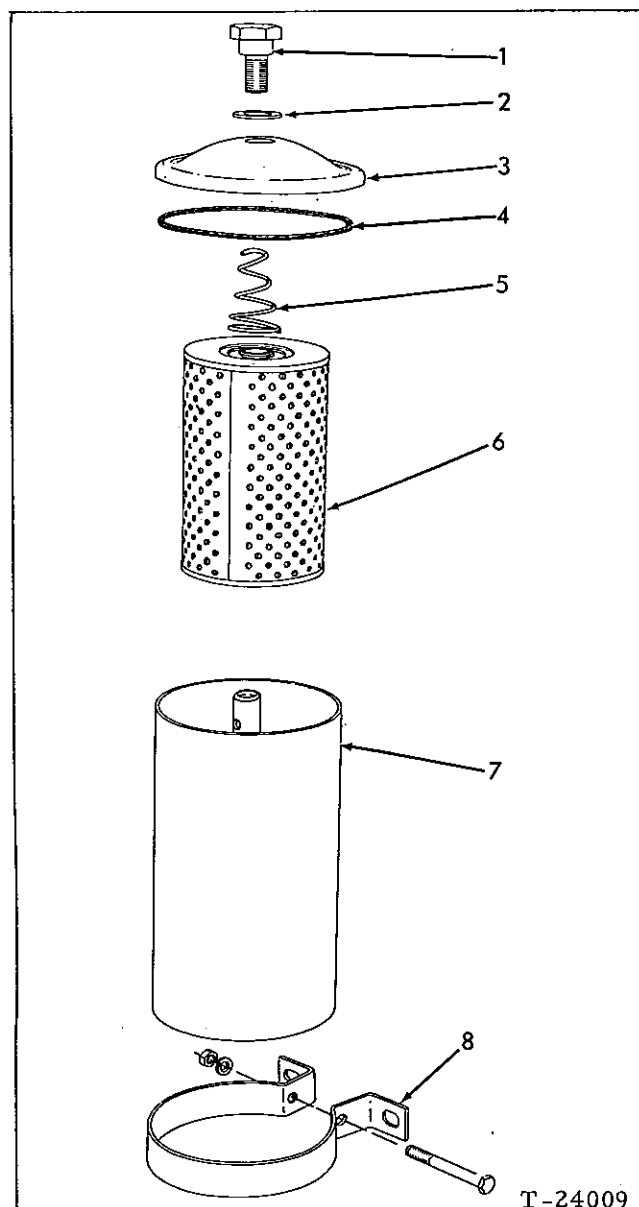

FIG. 33 HEAVY-DUTY FUEL FILTER PARTS
2. REPLACEMENT OF HEAVY-DUTY FUEL FILTER ELEMENT (Fig. 33) EARLY TYPE "WALKER"